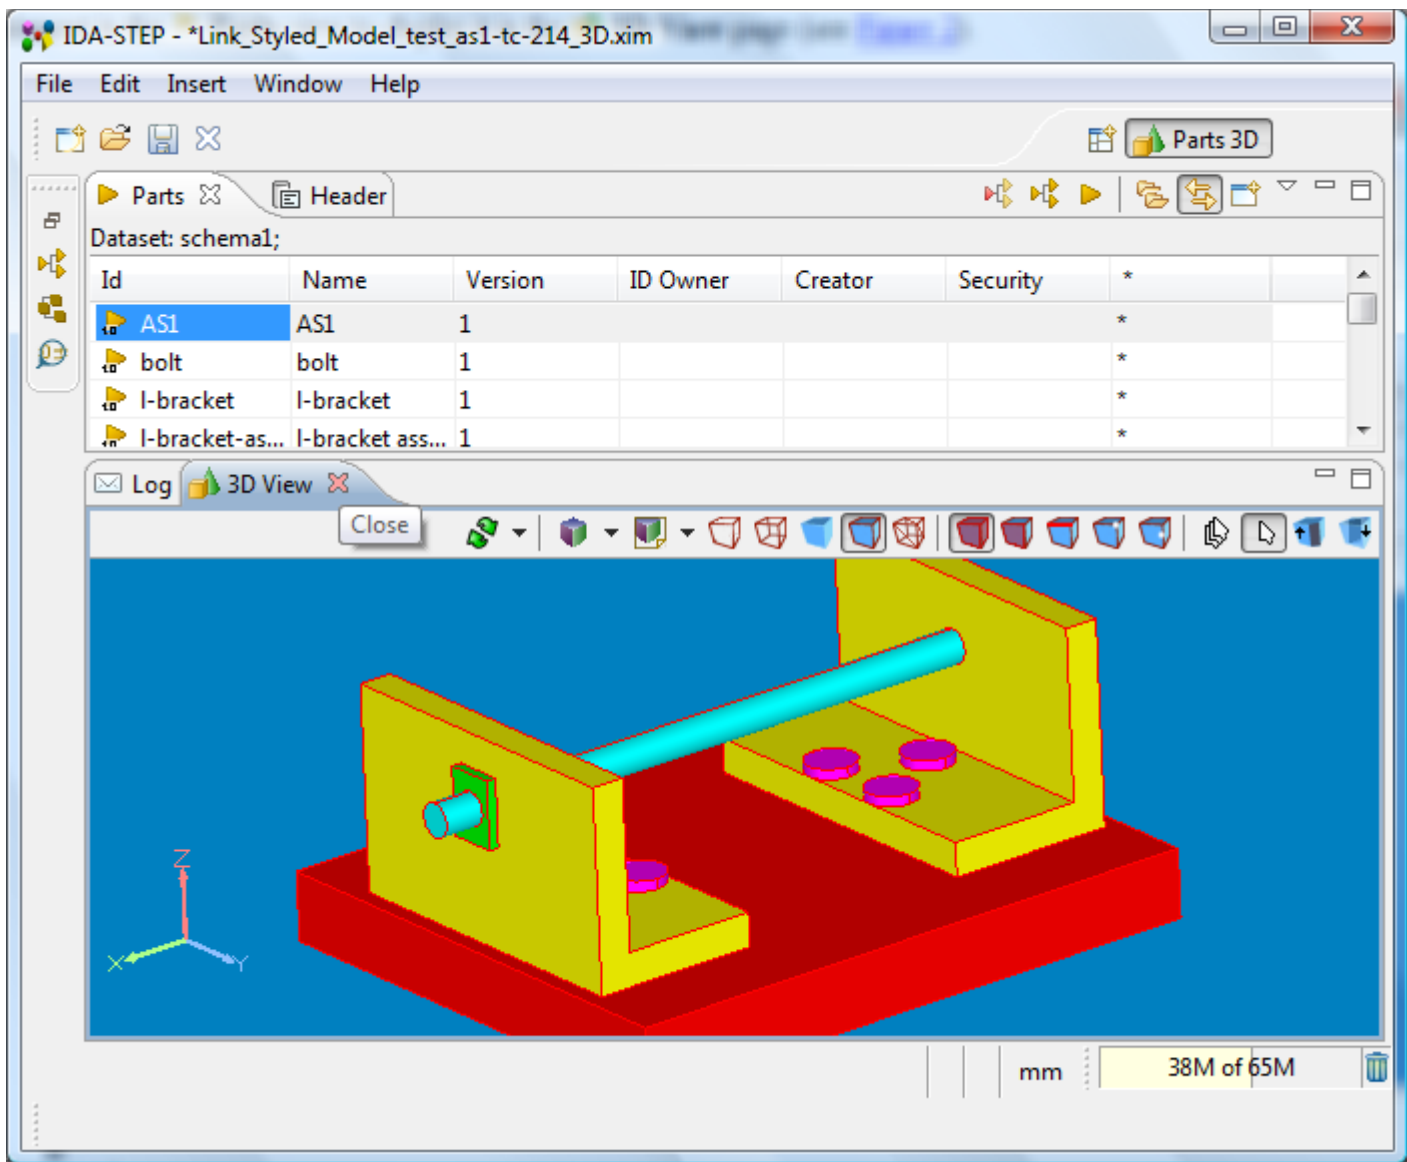

Figure 2. Selected part version in Parts view is displayed in 3D view
- Click on an applicable part version element in the ▶ **Parts** view to display it in the 🏠 **3D View** page (see Figure 2).